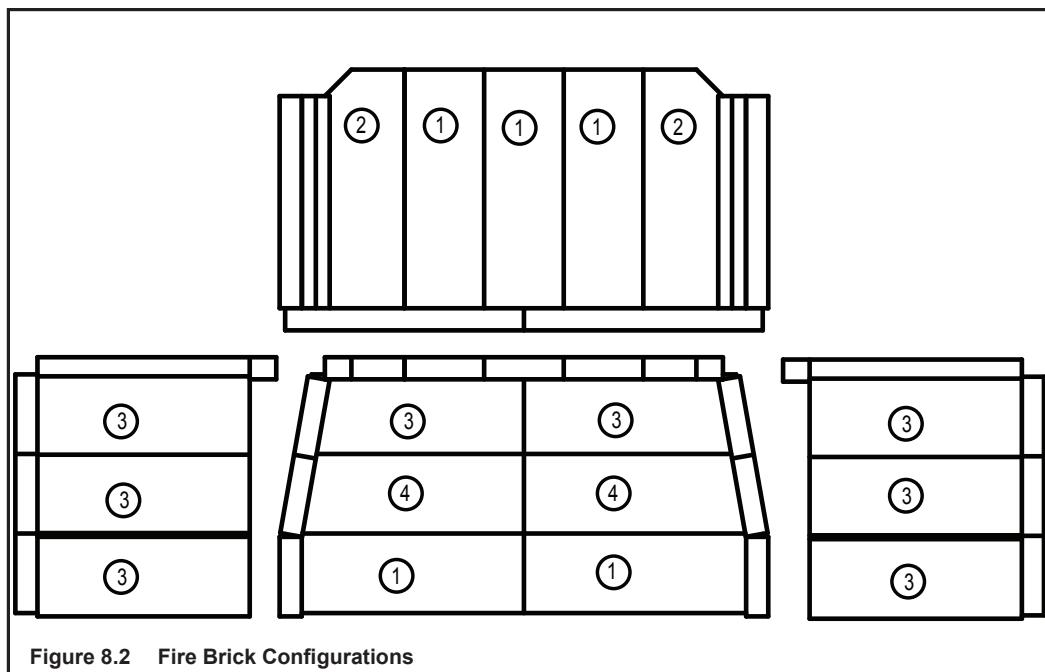

Figure 8.2 Fire Brick Configurations
- Remove new brick set from box and lay out to diagram as shown in Figure 8.2.